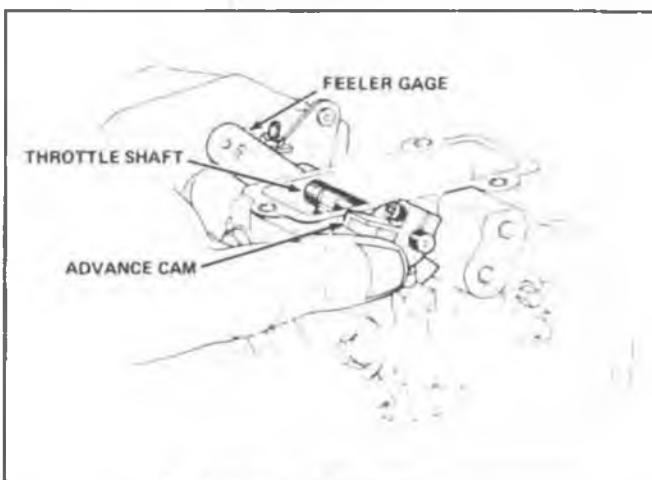

Fig. 2-12 Feeler Gauge Installation
19. Install a new mylar washer, the throttle shaft advance cam, (do not tighten cam screw at this time), and a new throttle shaft drive pin (Fig. 2-12).
21. Insert a .005" feeler gage between the white washer on the throttle shaft and the pump housing. Squeeze the throttle shaft and tighten the cam screw. Torque to 3.1 N·m (30 in. lbs.) and secure with Locktite 290. Remove tool J-29601 (Fig. 2-12).